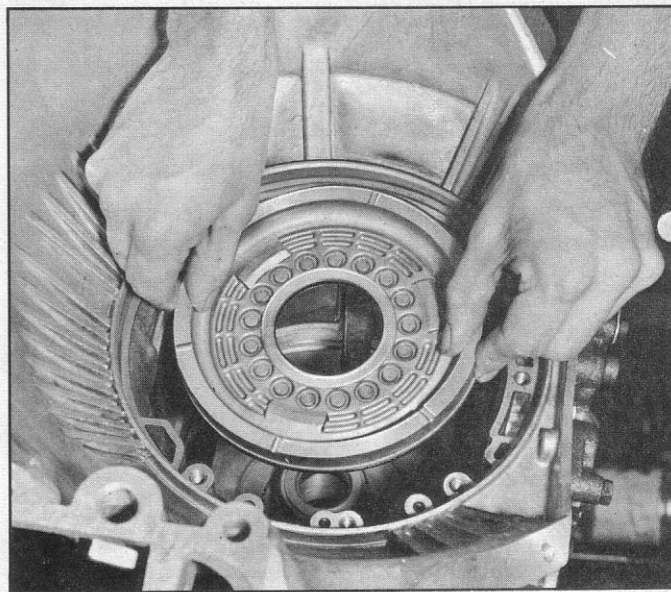

Fig. 36—Installing Reverse Piston
8. Install the inner and outer rear piston seals on the reverse piston and, lubricating the piston and case with transmission oil, install the piston into the case (fig. 36). If necessary, carefully slide a feeler gauge around the outer diameter of the piston to start the seal ring into the bore.